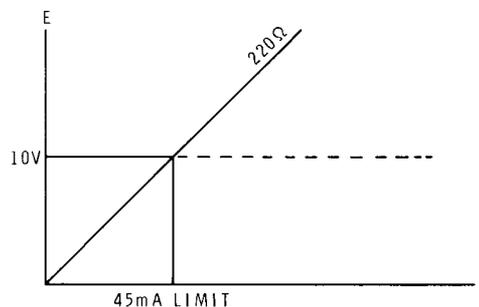

Figure 3
6. Turn the CURRENT control counterclockwise until the voltage just starts to decrease. (See Figure 3) The current is now limited to $10/220 = 45 \text{ mA}$.